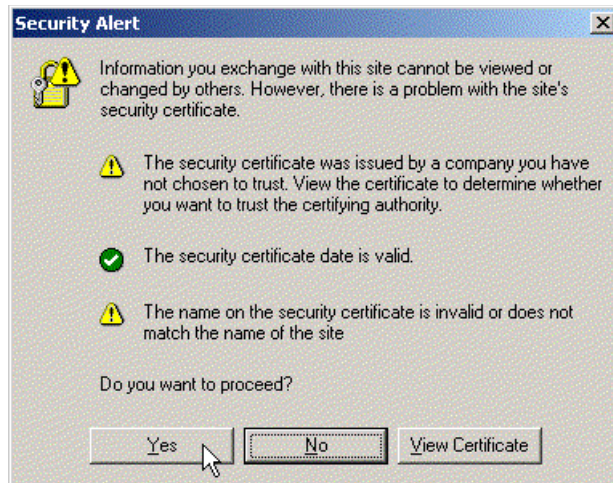

Figure 4-6 Certificate Security Alert
2. When you see the security alert regarding certificates (Figure 4-6), select **Yes**.